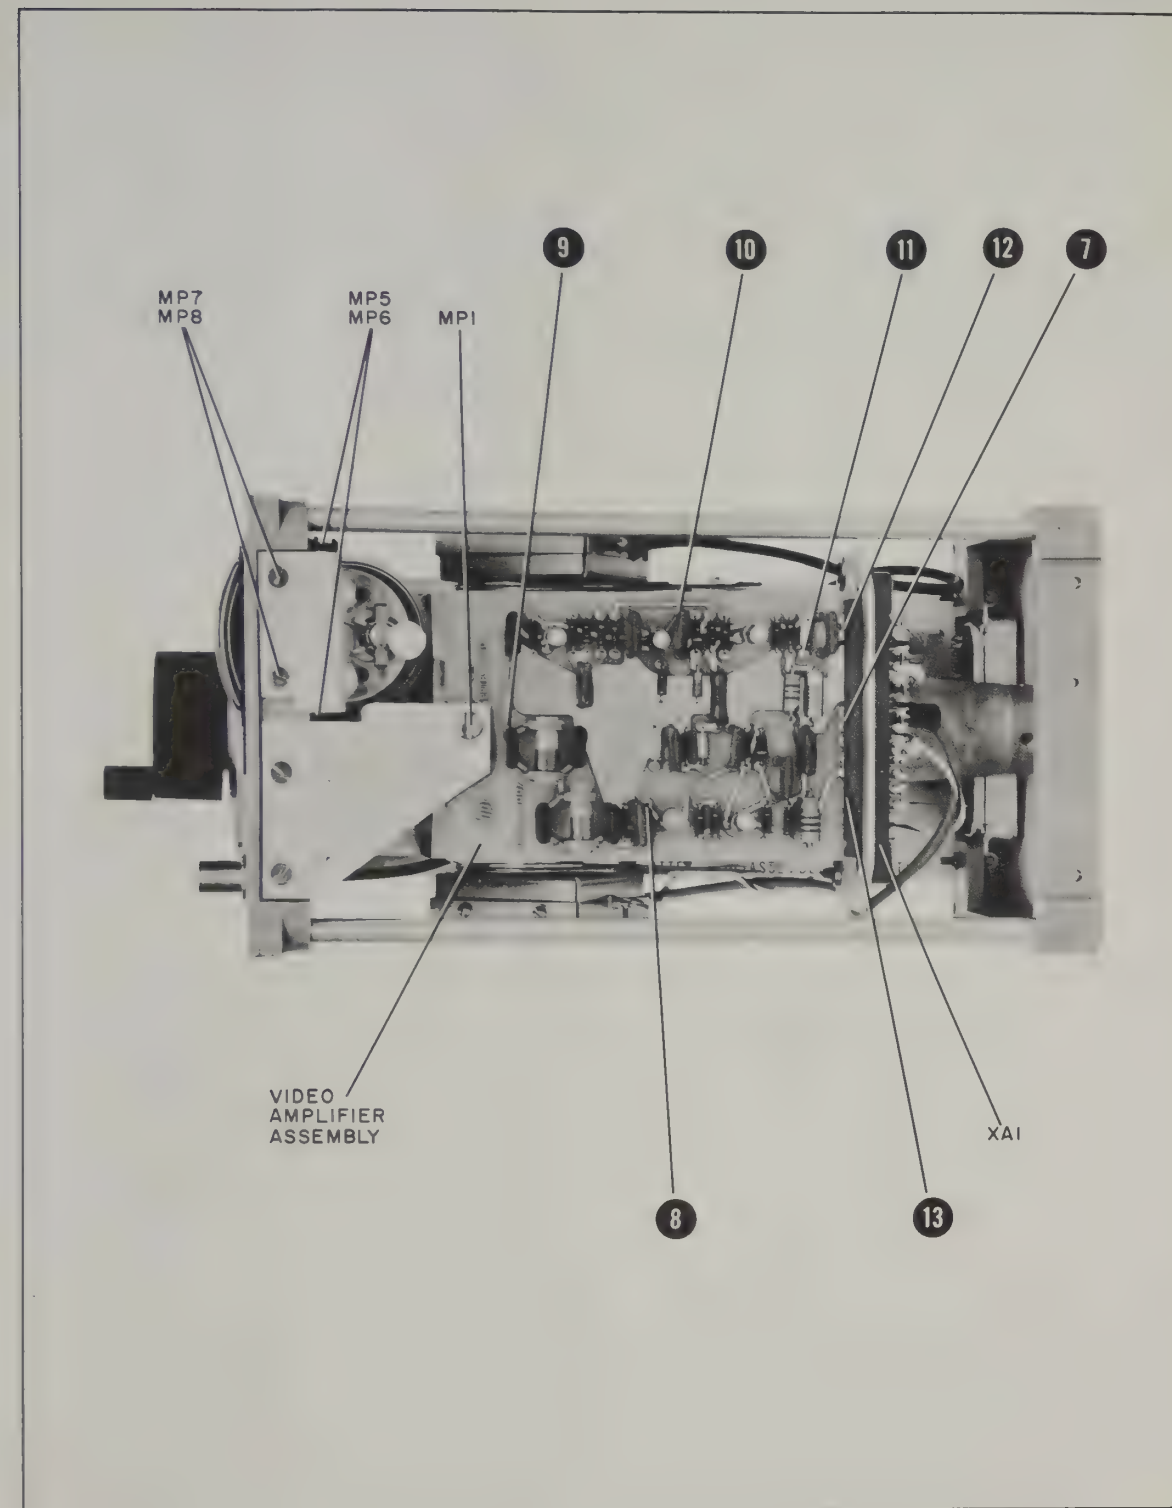

Figure 5-4. Top View - Test Points
- b. Unscrew and remove small retaining screw (MP1; see Figure 5-4) which holds video amplifier board A1 in place. Remove screws which secure supporting bracket to front panel. Remove supporting bracket.
- g. Remove screws (MP5, 6; see Figure 5-4) from meter bezel at sides of meter. Push bezel forward as far as possible.
c. Connect RF Millivoltmeter to Test Point #12 (see Figure 5-4).
c. Connect RF Millivoltmeter to Test Point #12 (see Figures 5-4 and 5-5).
e. Using RF Millivoltmeter, measure output of converter at Test Point #12 (see Figures 5-4 and 5-5). Voltage should be at least 100 mv.